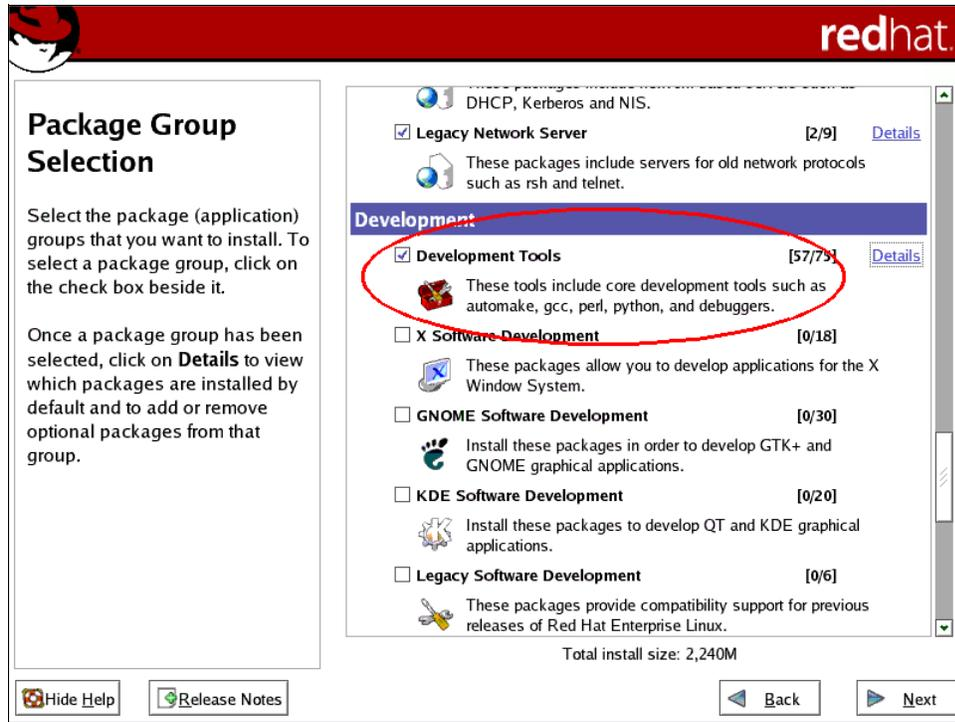

Figure 10-67 Package Group Selection
- After GRUB is installed, continue to follow the installation wizard until you reach the package group selection. When you select a packages group to be installed, we recommend also installing the Development Tools package, as shown in Figure 10-67. You will need some of these tools to the compile driver, for instance, after the OS has been completely installed.